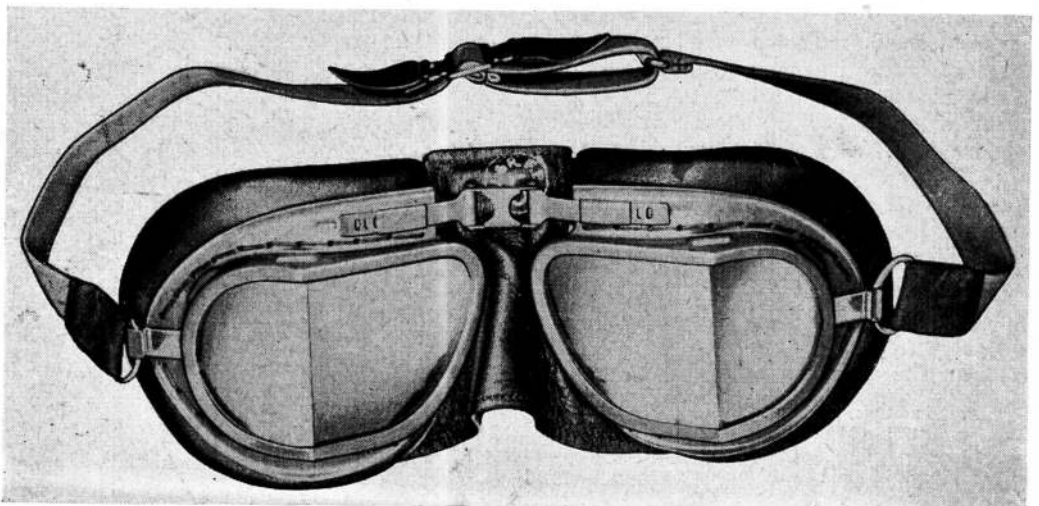

Fig. 1. Goggles, Mk. 8
3. Goggles, Mk. 8 (Stores Ref. 22C/930) (fig. 1) are the standard goggles worn by aircrew. They are supplied fitted with untinted safety-glass windows; a pair of tinted anti-glare windows is provided in the goggle kit and may be fitted if required. An anti-dimming outfit is also provided.